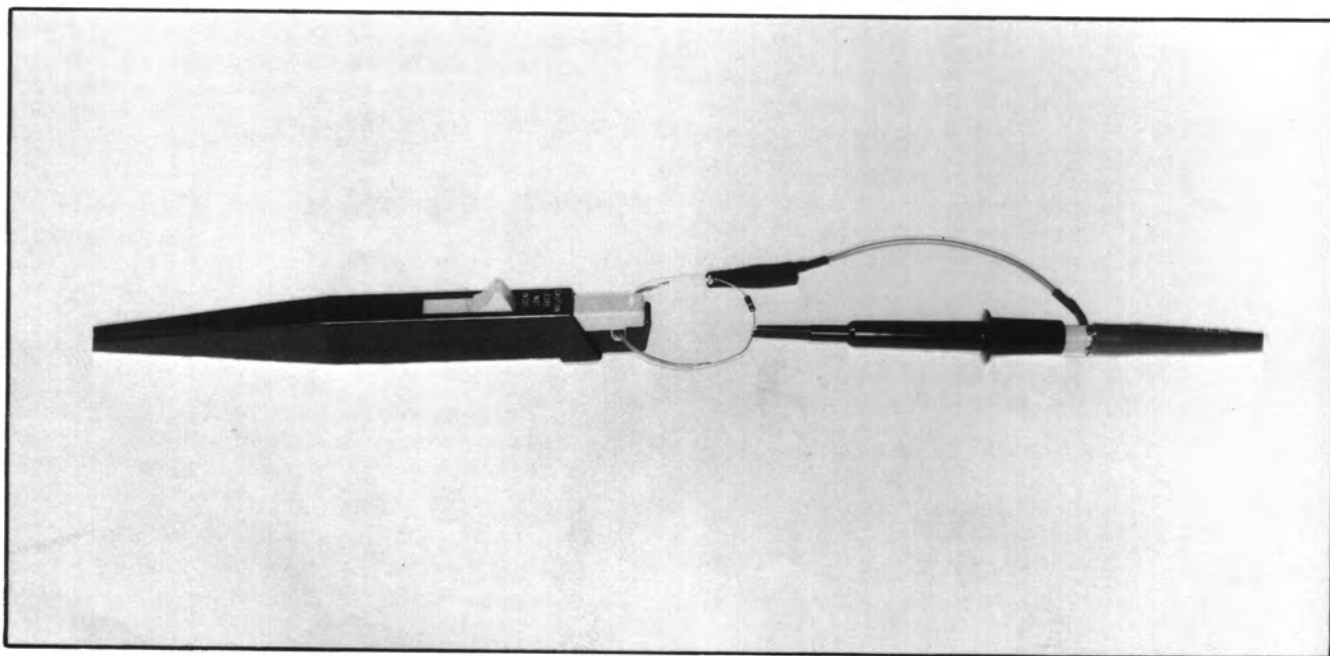

Fig. 6-9. Test setup for step 8.
d. Connect the 1× probe across the 10 Ω resistor. See Fig. 6-9.